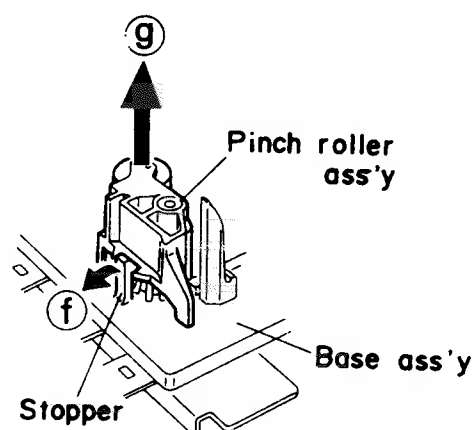

Fig. 2-24
■ Pinch roller assembly (Fig. 2-24)
1. Pull out the stopper protruding from the base assembly in the direction of the arrow ① to remove it from the pinch roller assembly.
2. Then, pull out the pinch roller assembly in the direction of the arrow ②.